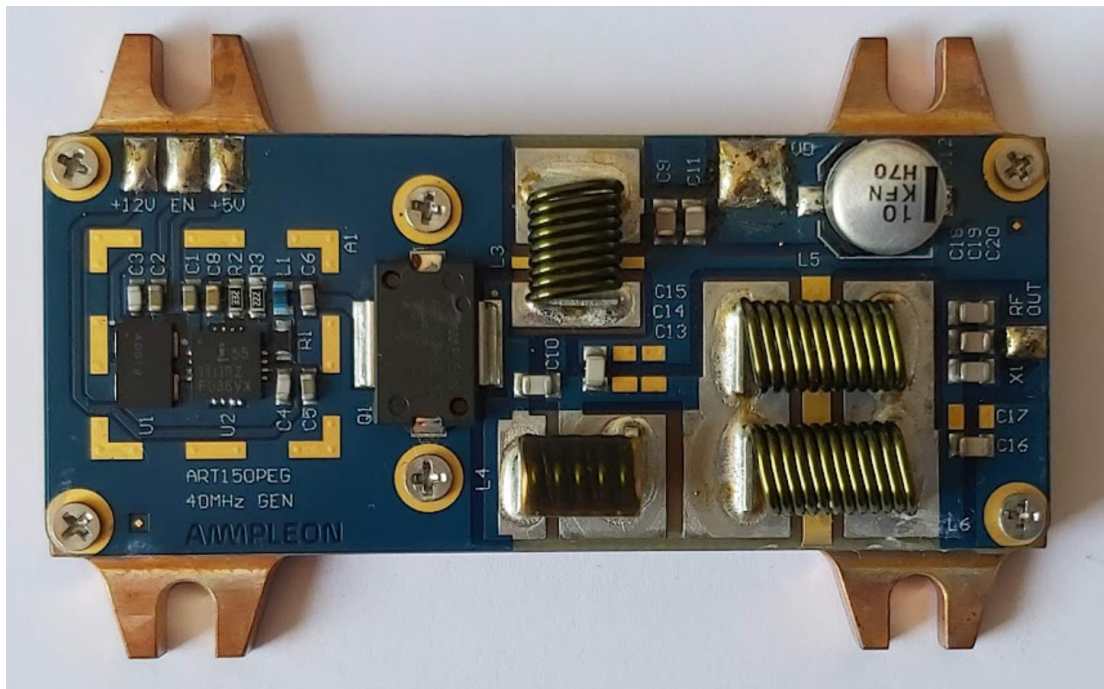

Figure 1 Demo front view
- Figure 1 Demo front view 3
The demo lineup consists of a 40MHz clock U1, gate driver U2, pre-distortion network, LDMOS transistor Q1 and the output matching (Figure 1).